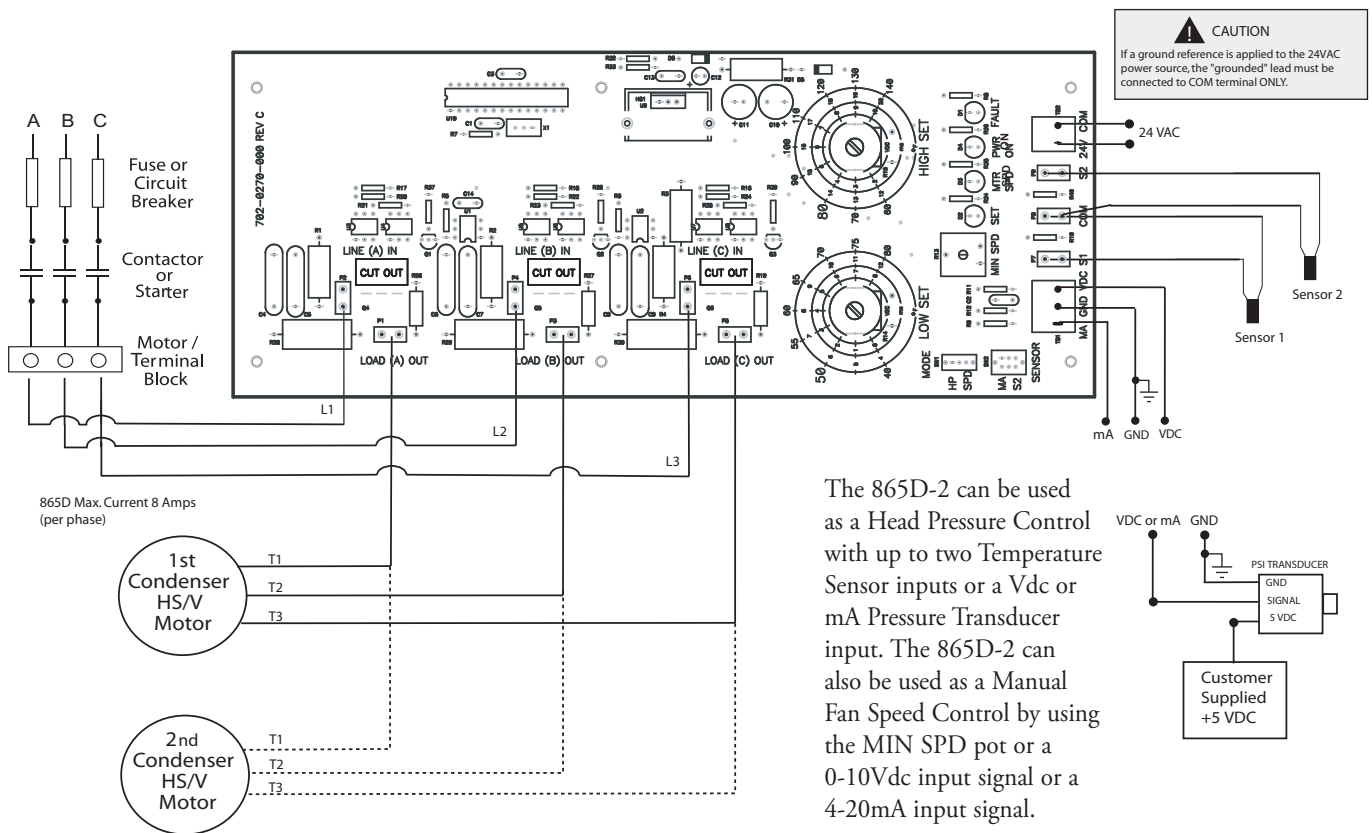

Figure 2 - Field Wiring Diagram
tions. The 865D-2 control maintains the pressure differential at the expansion valve for proper superheat. The **LOW SET** and **HIGH SET** point potentiometers have three scales that provide settings for temperature (40°-140° F), mA (4 -20) and VDC (0 - 10). Use the scale and input signal that is appropriate for the application. Refer to **Figure 2, "865D-2 Field Wiring Diagram"** (on page 5).
- Step 4** Install Line and Low voltage wiring along with Sensor wiring, as shown in **Figure 2, Field Wiring Diagram** (on page 5) and the instructions below.
- A.** Remove wiring from condenser motor(s) at contactor(s) or terminal block and reconnect the contactor's wires to the 865D-2 terminals LOAD (A), (B) and (C).
- B.** Field furnish three (3) 90°C wires, of appropriate size for the application, from condenser fan motor contactor to the 865D-2 terminals LINE (A), (B) and (C).